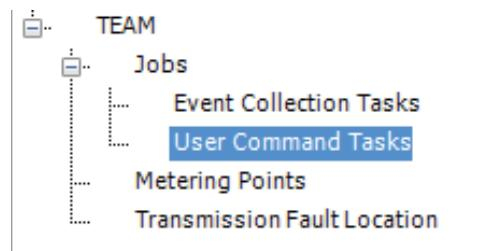

Figure 91 Create User Command Task
Step 1. In the Device Manager Connection Explorer, navigate to **TEAM > Jobs > User Command Task**, as shown in *Figure 91*. Double-click **User Command Tasks**, select **Edit** in the lower right corner, select **Create** under the **Tasks** column, and name the task **RB01 Pulse**, as shown in *Figure 91*.